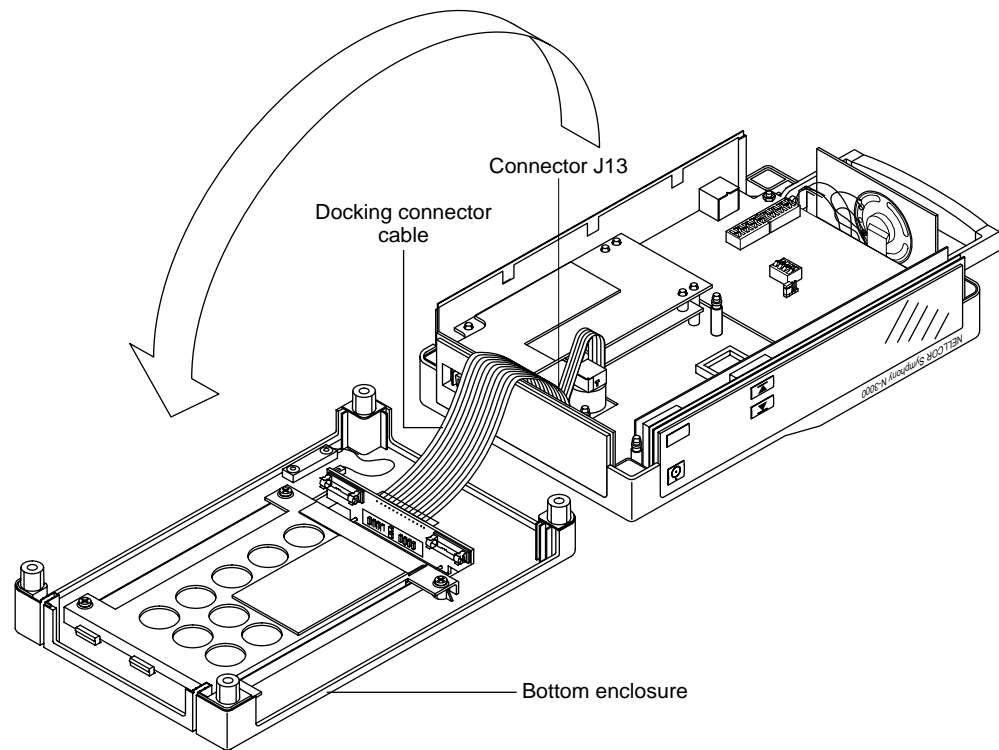

Figure 6-5: Opening the N-3000 Monitor
4. Pull the unit apart, swinging the bottom half to your left, as illustrated in Figure 6-5.
2. The switch settings on the Communication PCB are shipped for RS-232 communications and should be as follows (refer to Figure 6-5):
2. With the monitor upside down and facing you, open up the chassis as shown in Figure 6-5.